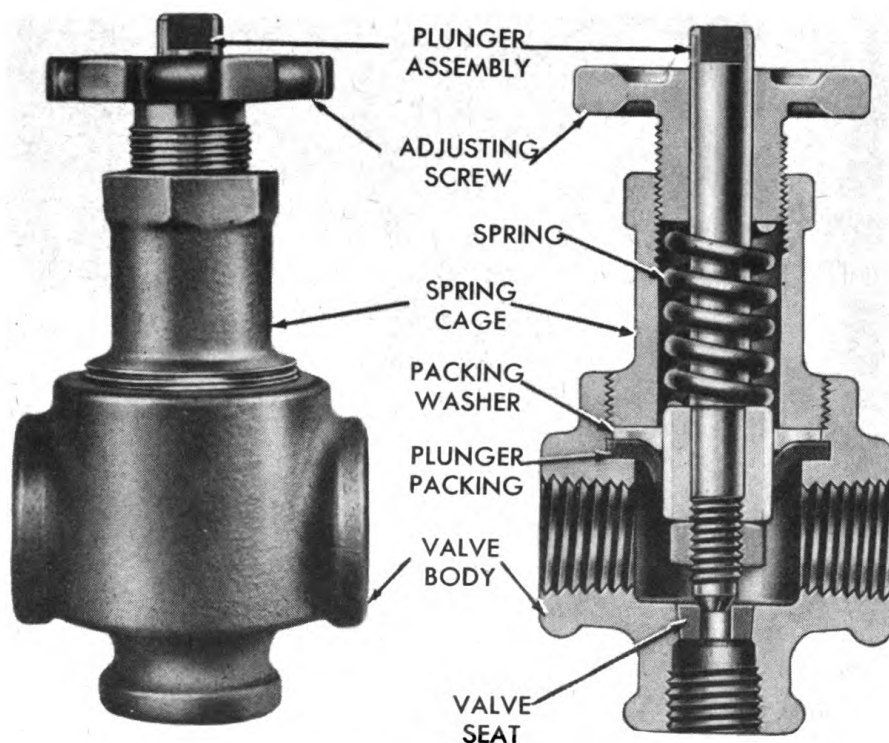

Figure 42—Cross Sectional View of Relief Valve
b. To Remove Plunger Packing. (See figure 42.)
- (1) Remove adjusting screw.
- (2) Remove spring cage and spring.
- (3) Pull plunger assembly out of plunger packing; then remove packing and packing washer.